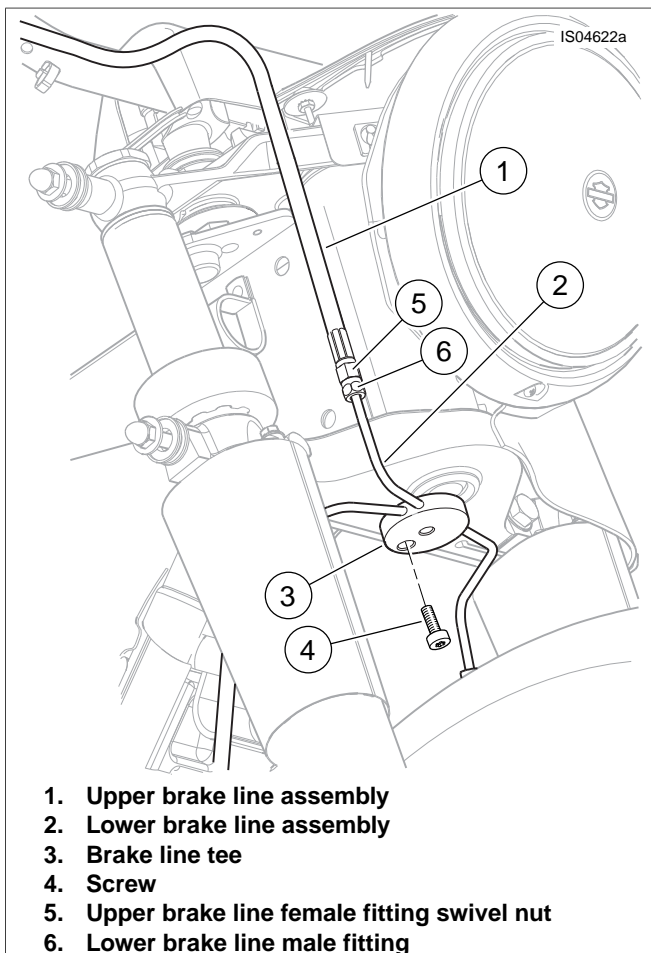

Figure 1. 2013-Earlier Front Brake Lines (Road King Model Shown)
2. See Figure 1. Obtain the **new** lower brake line assembly (2).
10. See Figure 1. Position the upper brake line female fitting swivel nut (5) to the male fitting (6) on the lower brake line. Thread the nut onto the male fitting finger-tight, do not twist the upper or lower brake lines while tightening.